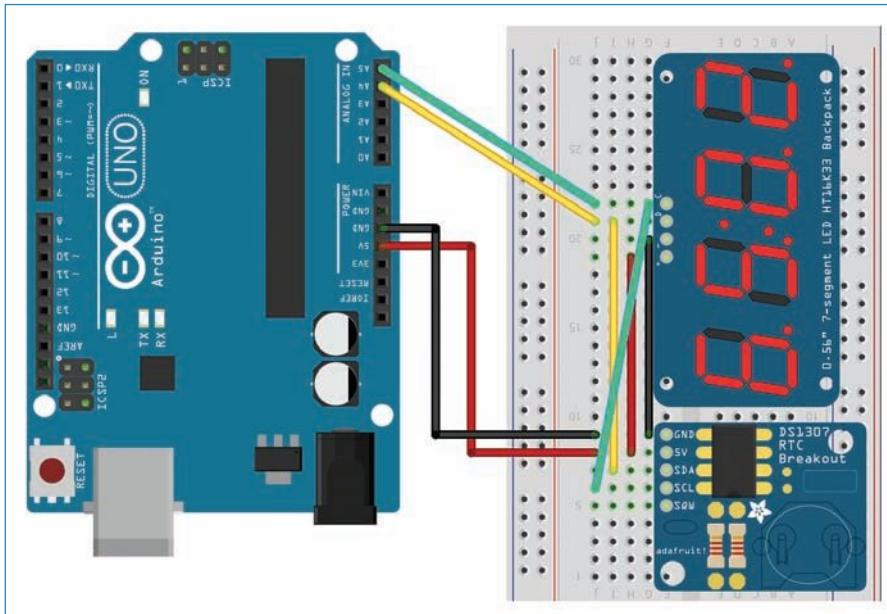

FIGURE 11.6 Wire up your clock as you see here.
Let's wire up the digital clock, following along with Figure 11.6. Note that the image I used for the RTC is the DS1307 I mentioned earlier in this chapter. Functionally it works the same as the ChronoDot, and they both use the same Arduino library, so for the purposes of this project, which one you use doesn't matter too much. Let's get started!
2. Attach the RTC module. This should also leave room for jumpers, as shown in Figure 11.6.
1. Connect the “+” pin on the backpack to the 5V pin on the RTC (marked as “VCC” on the ChronoDot) and to the 5V pin on the Arduino. This is the red wire in Figure 11.6.
2. Connect the “-” (ground) pin on the backpack to the GND pin on the RTC, and then to a GND pin on the Arduino. This is the black wire in Figure 11.6.
3. Connect the “C” (clock) pin on the backpack to the SCL pin on the RTC and then to pin A5 (that's analog, not digital!) on the Arduino. This is the green wire in Figure 11.6.
4. Connect the “D” (data) pin on the backpack to the SDA pin on the RTC and pin A4 on the Arduino. This is the yellow wire in Figure 11.6.